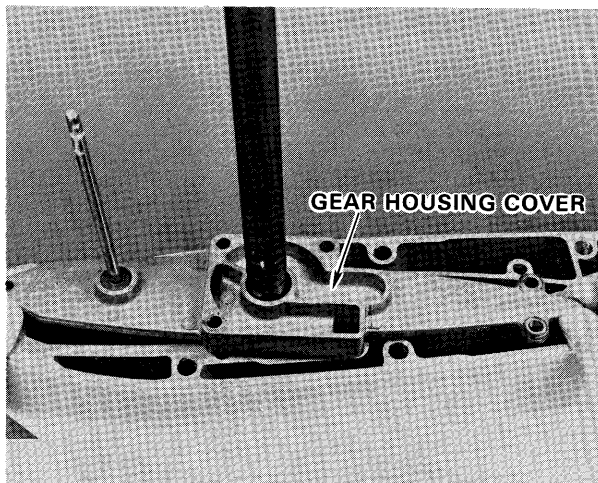

Figure 6—Removing Gear Housing Cover
- C. Remove three (3) screws and lockwashers securing gear housing cover to gear housing.
- D. Rotate gear housing cover as shown in figure 6, grasp ends of cover, pull up on cover while rocking cover back and forth until free from bore in gear housing. Lift cover up and off driveshaft. Remove crush ring from bore in gear housing.